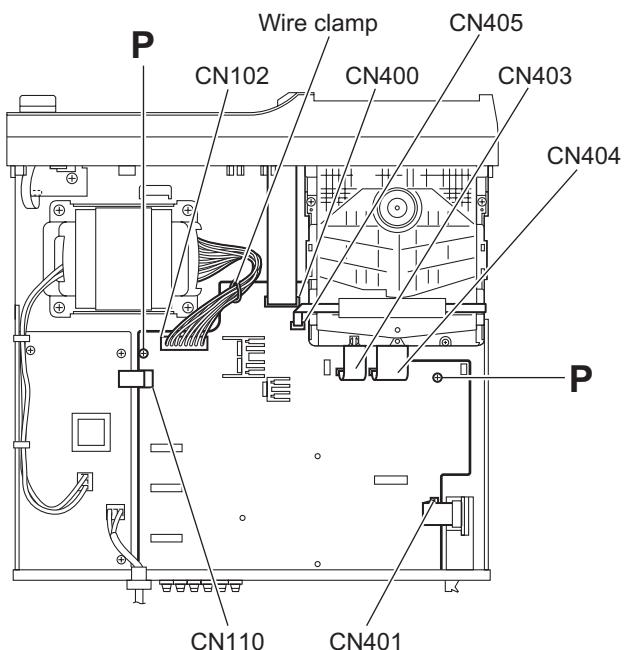

Fig.14
(See Figs.14 and 15)
- (1) From the top side of the main body, disconnect the card wires from the connectors CN400, CN401 and CN403 to CN405, on the main board. (See Fig.14.)
- (2) Disconnect the wires from the connectors CN102, CN101 on the main board. (See Fig.14.)
- (3) Remove the two screws **P** attaching the main board to the chassis base. (See Fig.14.)